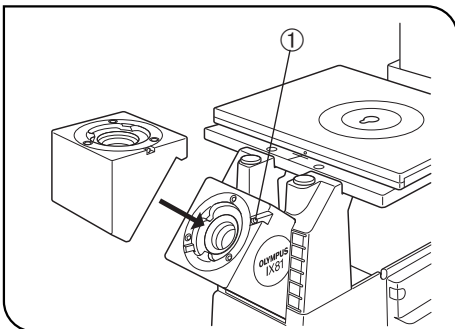
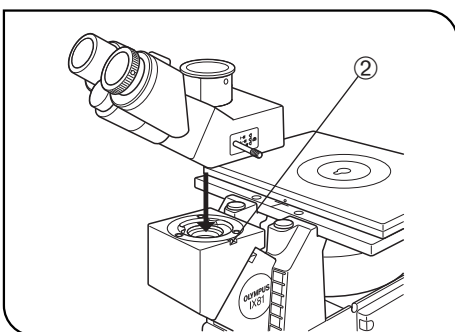

Fig. 81
Fig. 82
Trinocular Tube (U-TR30H-2) (Figs. 81 & 82)
1. Using the Allen screwdriver, loosen the observation tube clamping screw ① on the observation tube mount. (Fig. 81)
2. Insert the circular dovetail mount of the intermediate tube into the observation mount so that its upper surface is flush with the microscope frame. Tighten the observation tube clamping screw ① to clamp the intermediate tube.
3. Using the Allen screwdriver, loosen the observation tube clamping screw ② on the intermediate tube's observation tube mount. (Fig. 82)
4. Insert the circular dovetail mount of the observation tube into the intermediate tube's observation tube mount so that the binocular eyepiece sleeves face toward the front. Then tighten the observation tube clamping screw ② firmly. (Fig. 82)